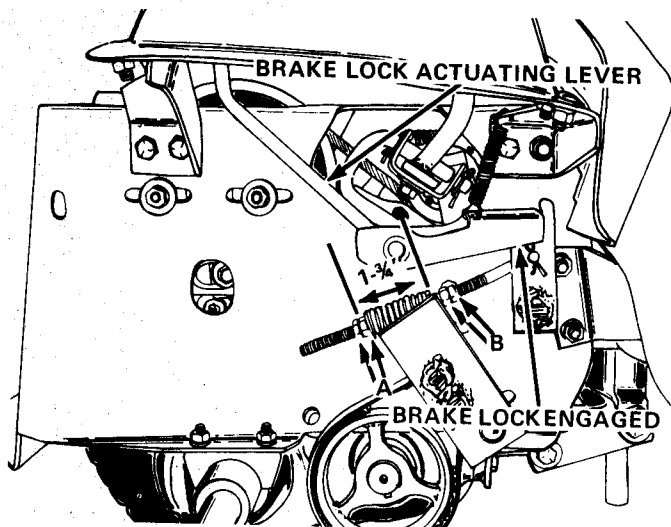

Figure 26
NOTE: Figures 26 and 27 show the right rear tractor tire removed for clarity and for easier access to the brake adjustment.
2. Tighten nuts A, Figure 26, until the compres-